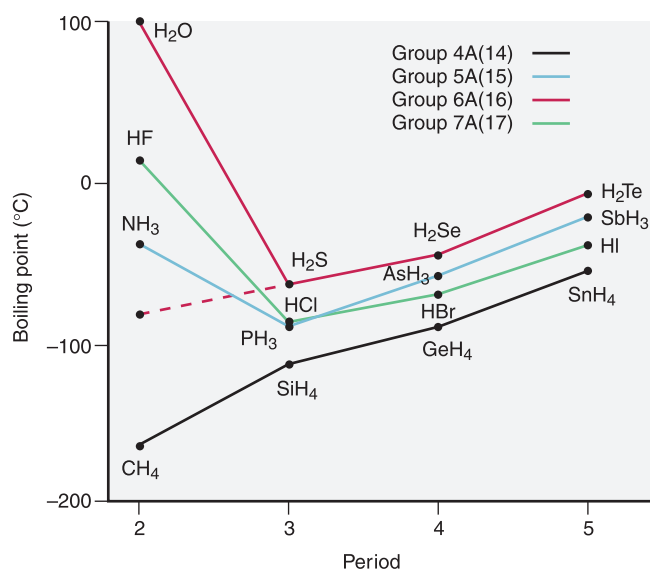

Figure 12.12 Hydrogen bonding and boiling point. NH_3 , H_2O , and HF have exceptionally high boiling points because they form H bonds.
The Significance of Hydrogen Bonding Hydrogen bonding has a profound impact in many systems. We'll examine one effect on physical properties. Figure 12.12 shows the effect of H bonding on the boiling points of the binary hydrides of Groups 4A(14) through 7A(17). For reasons we'll discuss shortly, boiling points rise with molar mass,
3. *Relative strength*. The relative strength of dispersion forces depends on the polarizability of the particles, so they are weak for small particles, like H_2 and He, but stronger for larger particles, like I_2 and Xe. *Polarizability depends on the number of electrons, which correlates closely with molar mass* because heavier particles are either larger atoms or molecules with more atoms and, thus, more electrons. For this reason, as molar mass increases down the Group 4A(14) hydrides (see Figure 12.12) or down the halogens or the noble gases, dispersion forces increase and so do boiling points (Figure 12.14).